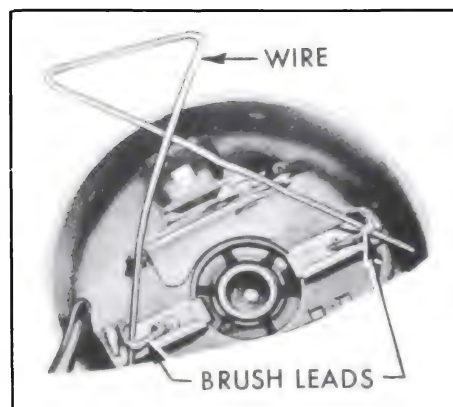

Figure 10-118—Holding Brush Leads
5. To separate armature from case while still retaining the brush springs and brushes in place, bend a wire as shown in Figure 10-118 and insert behind the brush leads as shown.